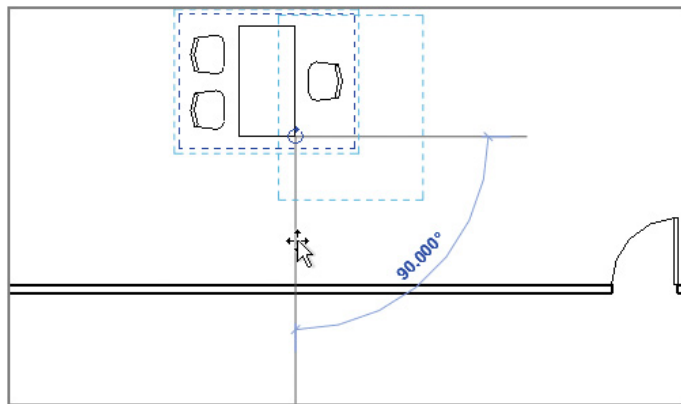

FIGURE 1.36 Use the Rotate tool to modify the last copy of the Desk-Chair-3 group.
14. Move the mouse pointer in the south direction (Figure 1.36) and click. This is the final rotation.